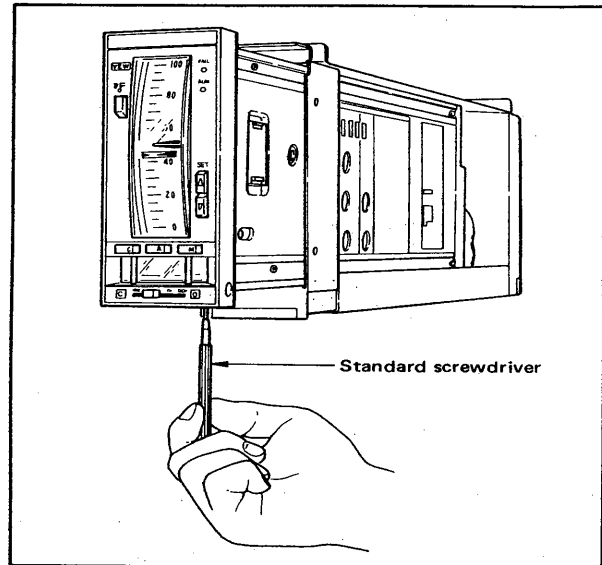

Figure 6-2-4. Zero Adjustment of Output Indicator.
- (3) If the index deviates from the tolerance, rotate the zero adjustment screw so that the index points to the middle main scale graduation. (See Figure 6-2-4.)
- (4) Change the input signal to 1.0 V, 2.0 V, 4.0 V, and 5.0 V DC, and insure that the output index points to the 0%, 25%, 75%, and 100% points accordingly. The tolerance is  $\pm 2.5\%$  of span (1/2 of each scale division).
- (5) If the tolerance is exceeded in (4), return to step (1) and make fine adjustments with the reading to fit within the tolerance.
- (6) Repeat steps (4) and (5) as necessary until the readings at all points are held within the tolerance.